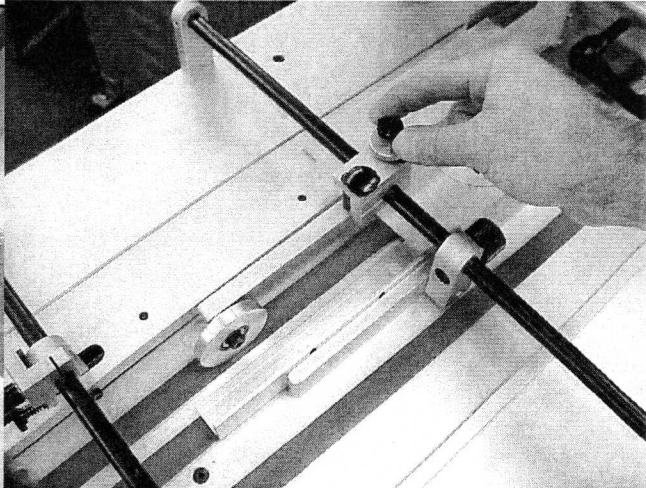
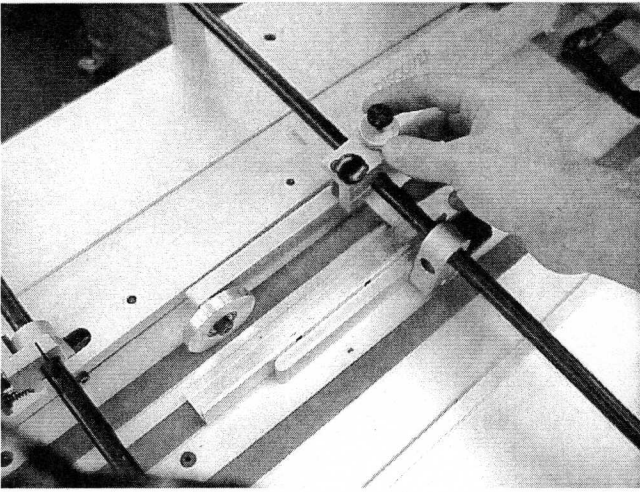

Figure 6
Figure 7
4. Adjust the pinch roller (see **Figure 6**) so that the roller pinches the product but rests just above the conveyor belt. After adjustment has been made lock the pinch roller in place by turning the locking wheel (see **Figure 7**).